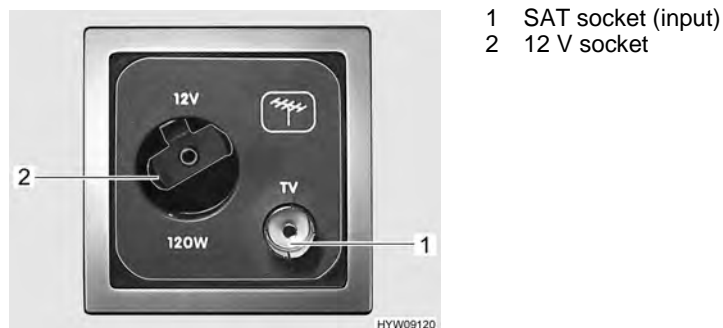

Fig. 49 Sockets (external satellite antenna)
- Plug the external satellite antenna's connecting cable into the SAT socket (Fig. 49,1).